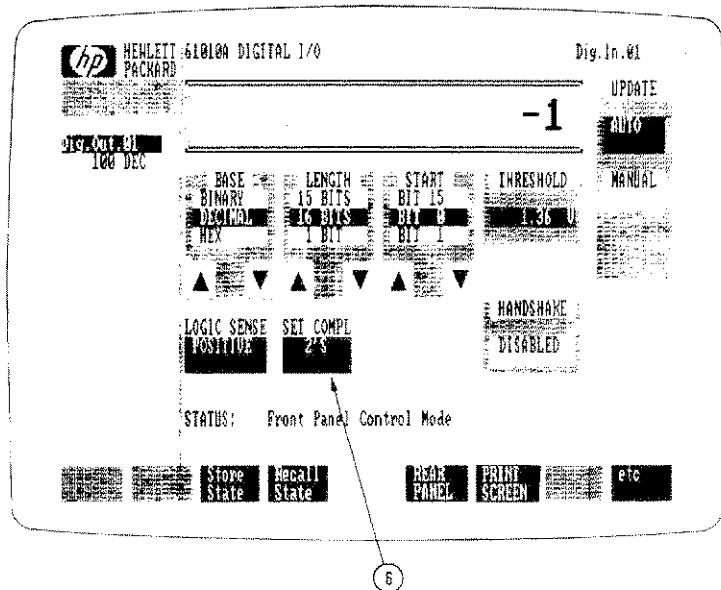

Figure 2-7. Change Complement to Unsigned
Step 6 · When you select DIG.IN.01, the DIG.IN.01 information in the System View window disappears, and a front panel representation of the Digital Input replaces the Digital Output in the Interactive Instrument Window. The default base for DIG.IN.01 is decimal. Notice that with the input connector disconnected, a -1 appears on the display (see Figure 2-7). This is because the Digital Input is reading all 16 input bits as being high due to internal pull-up resistors and the fact that the logic sense is positive. The -1 is the 2's-complement representation of all 16 input bits being high. To illustrate how the Digital Input can format the input data on the display, point to and select 2's in the set compl field. (The set compl field toggles between 2's and UNSIGN).